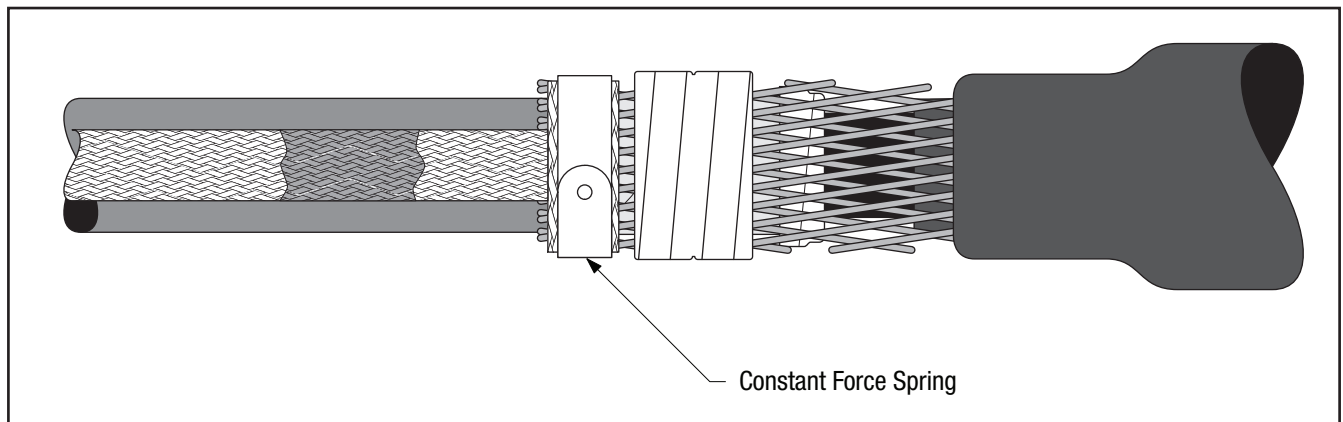

Figure 17
- 6.2 Secure ground strap to the shield sleeve using a constant force spring (*Figure 17*).